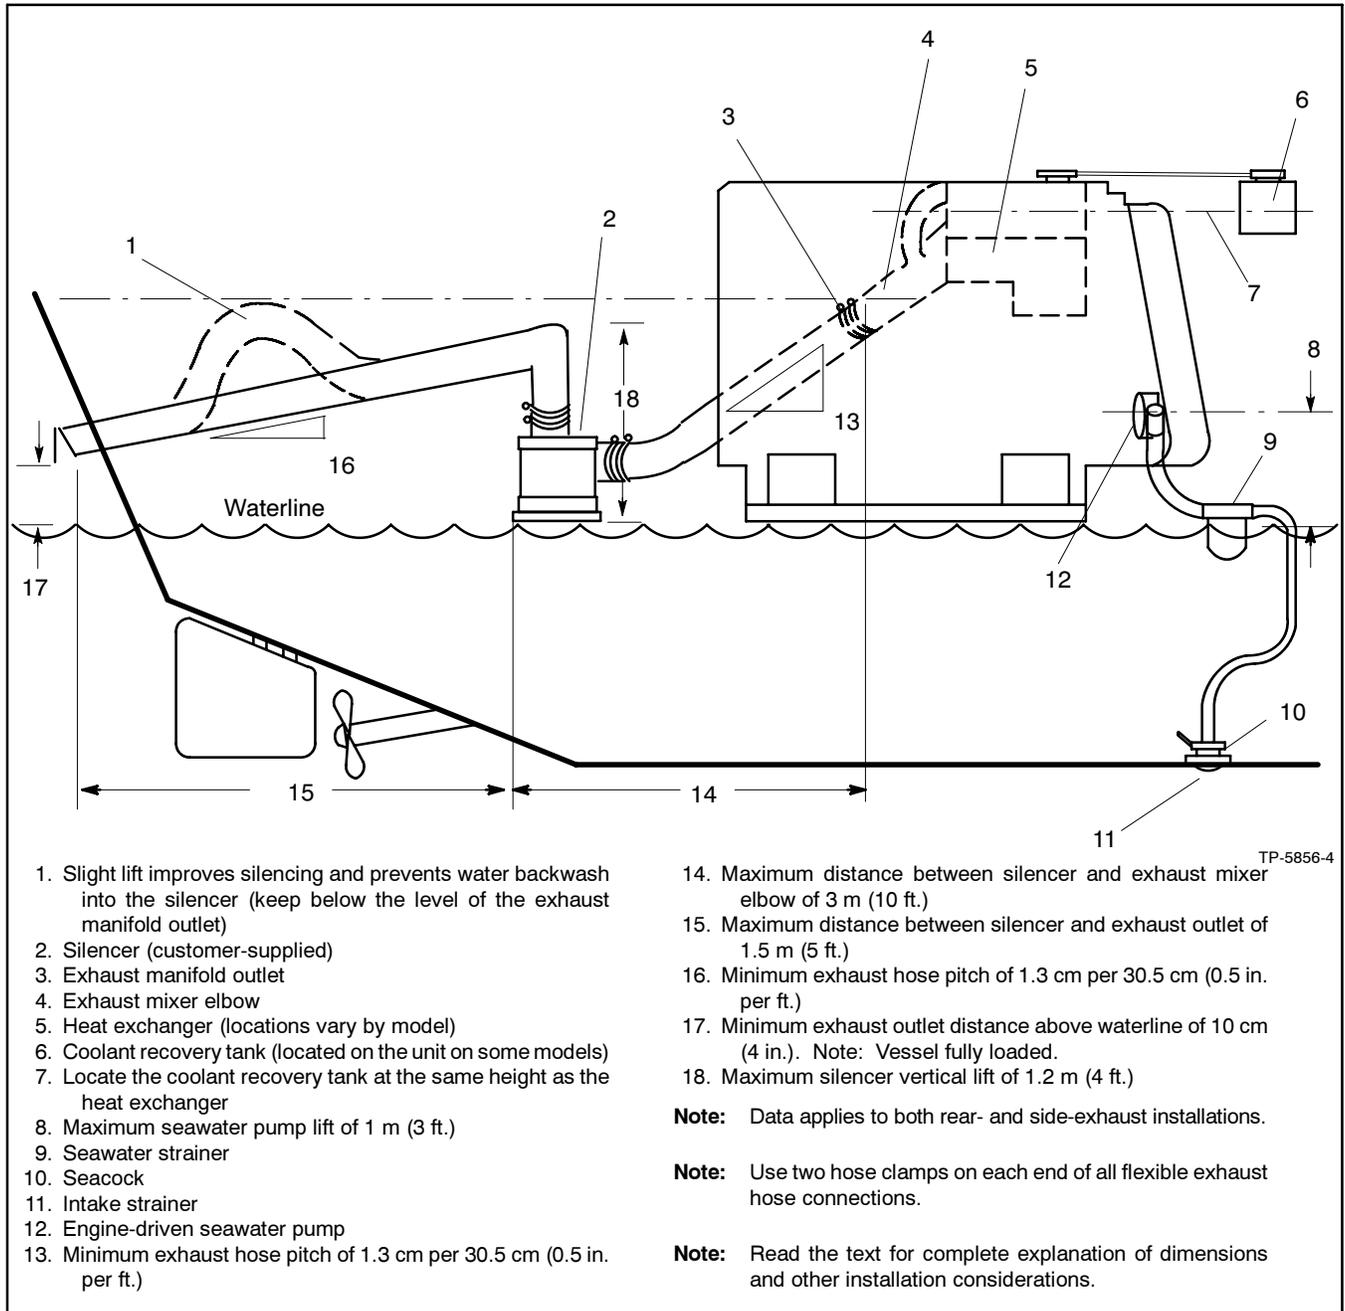

Figure 4-3 Typical Above-Waterline Installation
Locate the exhaust outlet at least 10 cm (4 in.) above the waterline when the craft is loaded to maximum capacity. Install an exhaust port with the flap at the exhaust (transom) outlet to prevent water backup in following seas or when moving astern (backward). A lift in the exhaust piping before the piping exits the craft prevents backwash. See Figure 4-3, item 1. Support the exhaust lines to prevent the formation of water pockets.
Install a customer-supplied silencer with the silencer's outlet at a maximum of 3 m (10 horizontal ft.) from the center of the engine's exhaust outlet. See Figure 4-3. Mount a typical silencer with the inlet and outlet horizontal and with the drain plug down. Use an exhaust
hose pitch of at least 13 mm per 30.5 cm (0.5 in. per running foot). Some silencers require two support brackets or hanger straps for installation to stringers or other suitable structure. Follow the instructions provided with the silencer. Install any lift (see Figure 4-3, item 1) in the exhaust line below the engine exhaust manifold outlet.